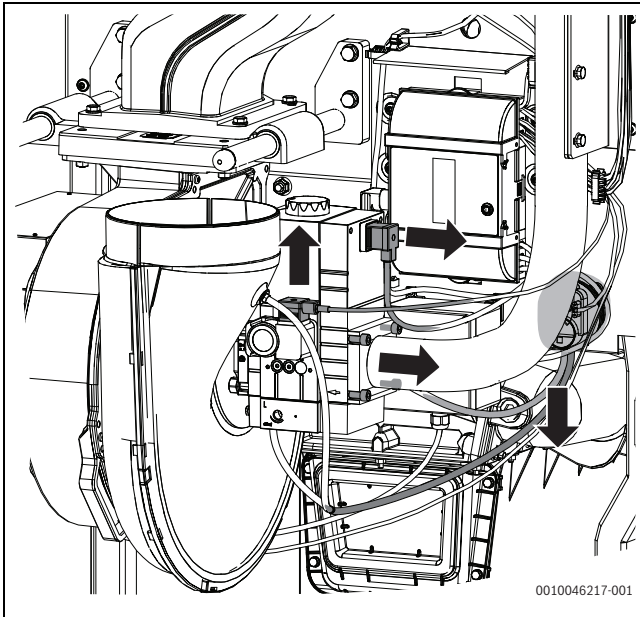

Fig. 57 Undo the plug, hoses and gas supply pipe
- Remove the 4 screws on the flange of the gas pipe (→Fig. 57).
- Remove the plug screw on the air/gas ratio control valve (→Fig. 57).
- Remove the hoses on the differential pressure sensor (→Fig. 57).